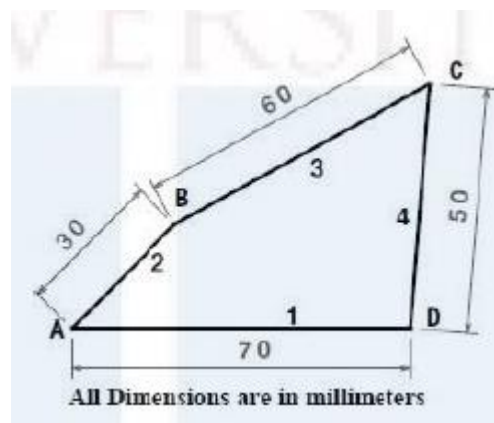

Figure 3.
20. Draw the inversions of the mechanism shown in Figure 3 which leads to double crank, double rocker and crank rocker mechanisms. Describe the nature of motion of each link in each case also.